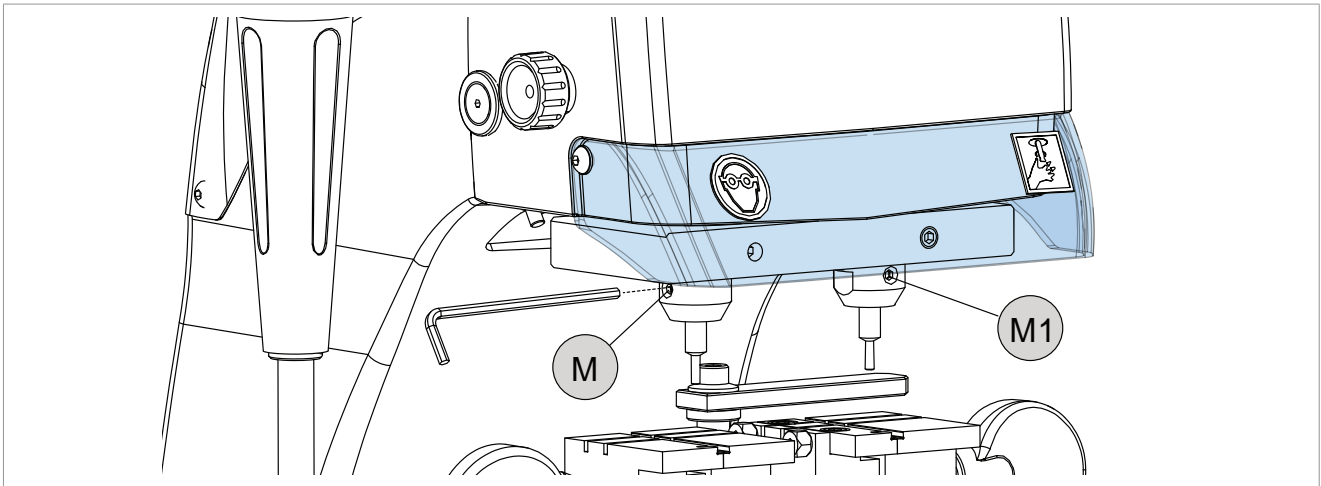

Fig. 16
- 1) Place the tracer point all the way into the left-hand sleeve and secure by tightening the grub screw (M) (Fig. 16).